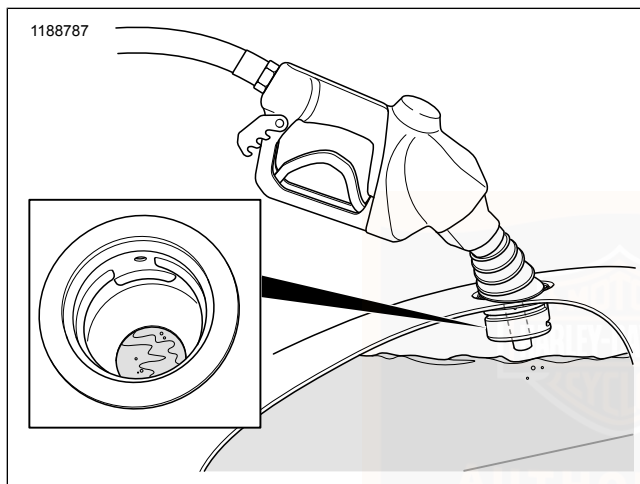

Figure 8. Fuel Level below Filler Neck
4. Fill the tank. Use only recommended fuel. See Fuel System Information (Page 33). Do not overfill the fuel tank. Insert the pump nozzle into the filler hole. Do not fill the tank beyond the bottom of the filler neck. See Figure 8. A warm engine, the sun or extreme temperatures can cause the fuel to expand. Fuel can spill out of the tank and damage the finish. See Safe Operating Rules (Page 3).